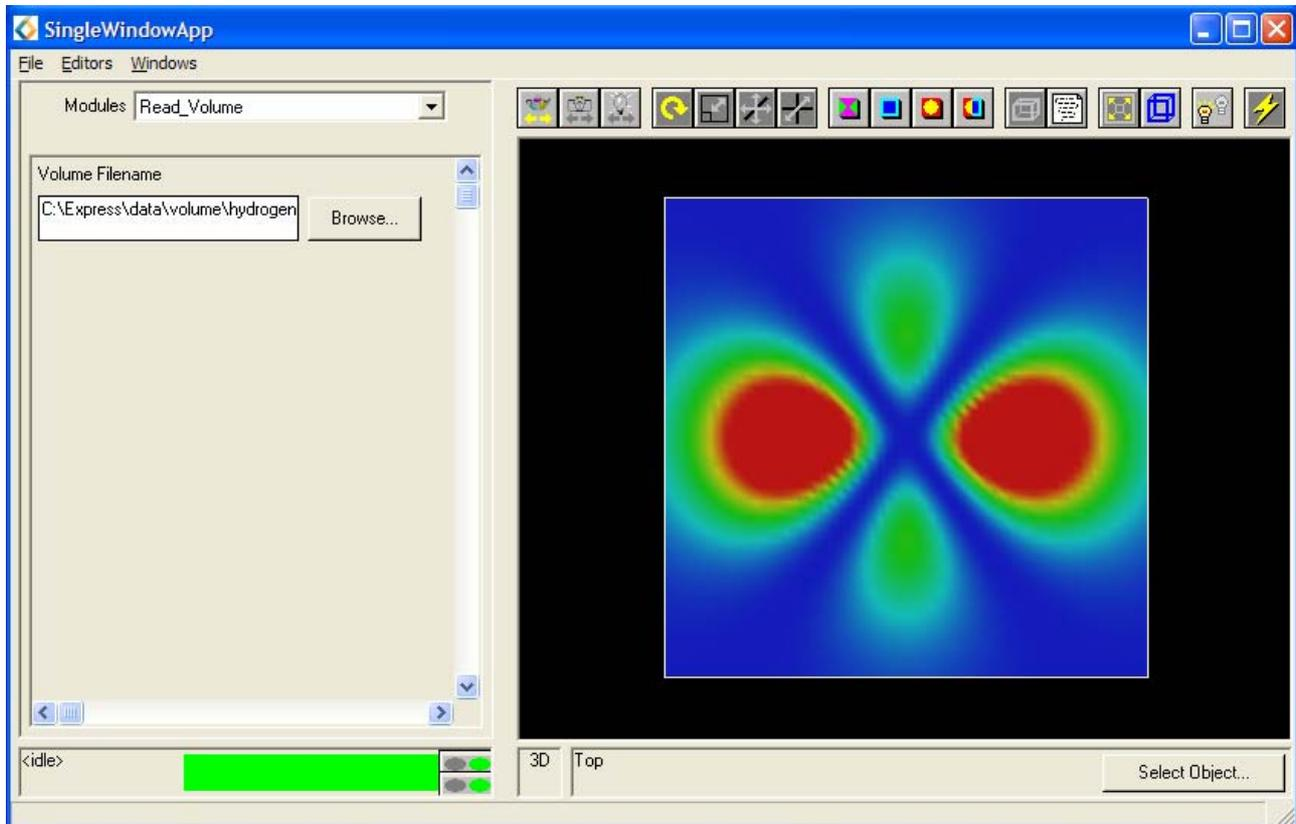

Figure 2.13: Data Viewer Pad
- The DataViewer window should display an image similar to that in Figure 2.13.